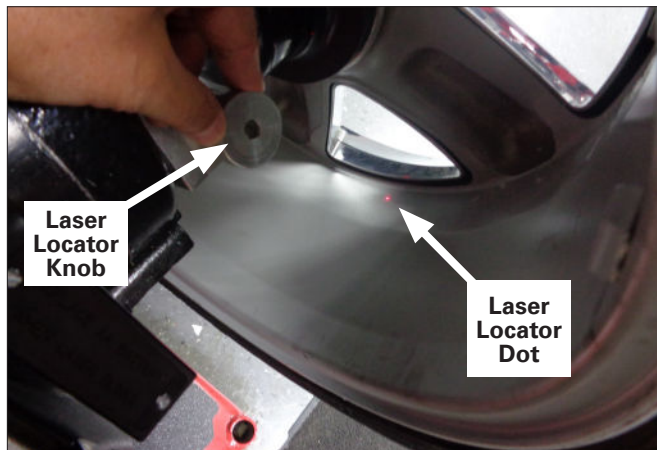

Figure 15 - Positioning Laser Dot At T2 Tape Hidden Weight Location (A2)
If the T2 Tape (hidden Tape-A-Weight) location is selected, use the laser locator to point to the desired hidden weight location (figures 15).
**3.** Rotate the laser locator knob to position the laser locator dot at the desired weight location. See figures 15 and 16.